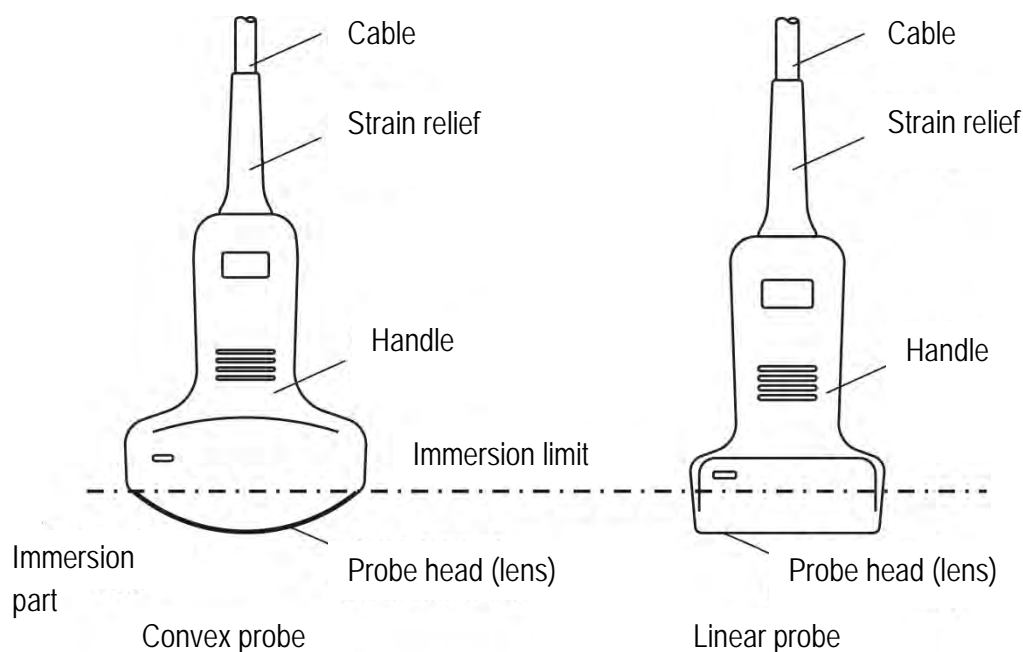

Figure 3: Probe structure
- g) The probe must not be immersed into water over the water immersion limit, as shown in Figure 3. The water-tightness category of the probe is IPX7. Accidental immersion of the probe in water over the immersion limit may cause failure or problems. Should such problems occur, please contact our service personnel immediately.